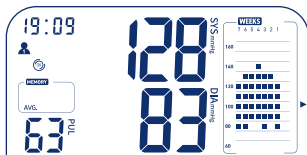

Figure 1
- If the most recent measurement performed was a single measurement, the average value from the last three single measurements is calculated and displayed with "AVG" (Figure 1).